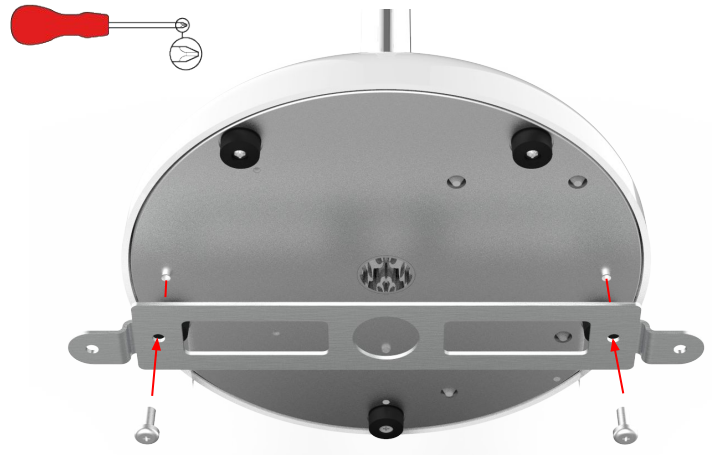

Fig.7
b. Reassemble the mounting bracket back onto the base as shown above. (Fig.7)